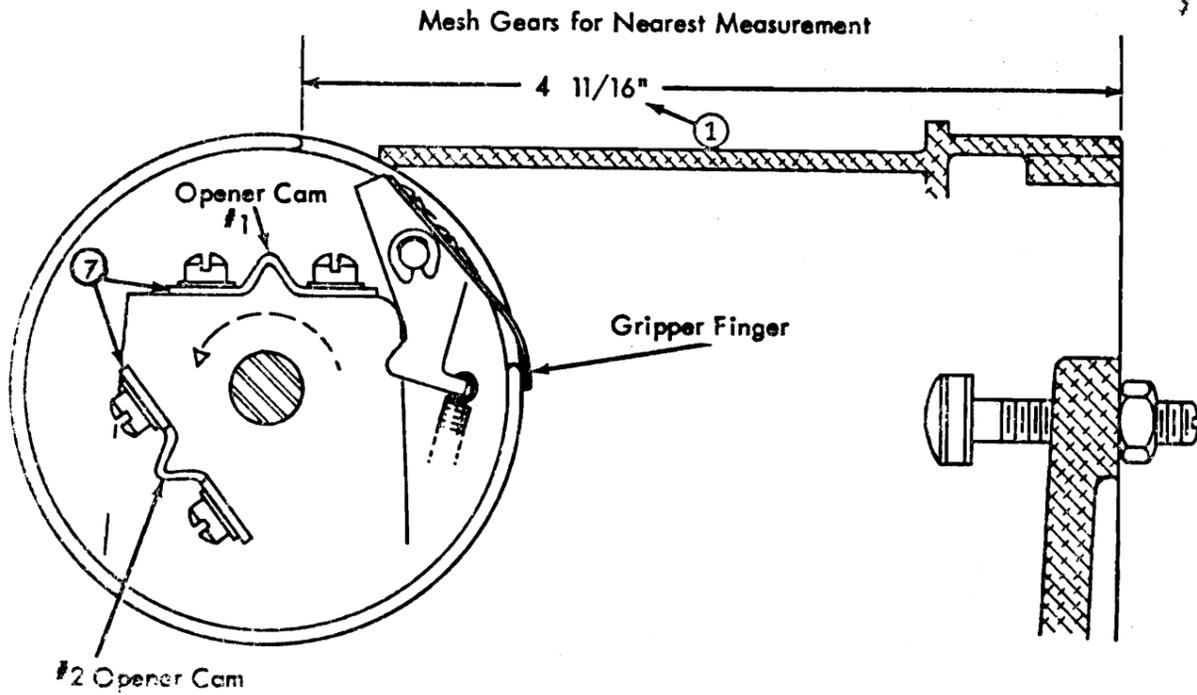

Figure 9. Stacker Adjustment
1. With the card feed index latched at 0°, time in the stacker with the teeth which provide the closest measurement to 4-11/16" from the upper cut in the stacker drum to the front edge of the base (Figure 9, step 1). It is advisable to measure this distance before removal of the unit to prevent changing other adjustments which might be affected because of a change in timing.
This operation must be checked under power with a partially filled hopper. An initial setting of the cams should cause the gripper finger blocks to contact the number 1 cams at  $73^\circ$  of the CF index. Adjust the number 2 cams to stack the cards without marking them (Figure 9, step 7).